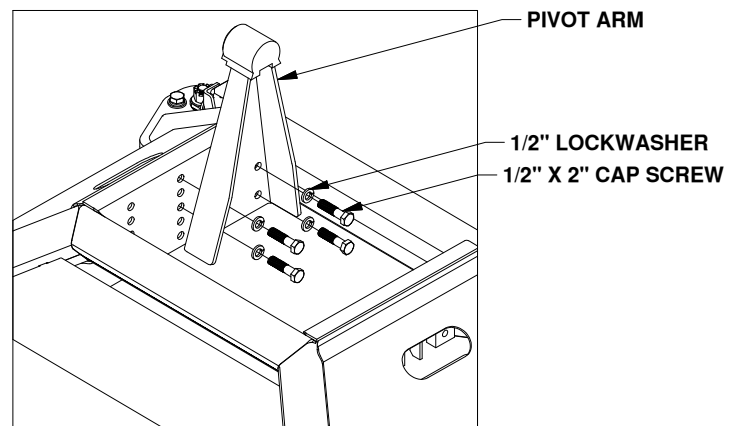
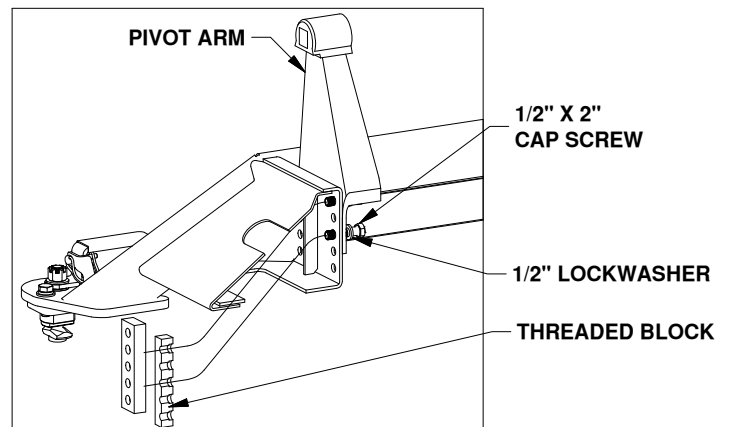

Figure A2: Passenger pivot arm mounting location.
Figure A3: Cutaway view of passenger side bolt plate.
- Locate both pivot arms, the four threaded blocks, eight 1/2" cap screws, and eight 1/2" split lock washers. Place the lock washers over the cap screws. Align the flat side of the pivot arm flat against the bolt plate and install four 1/2" cap screws through the holes on the arm, holding the arm in place, as shown in Figure A2. Locate the threaded blocks. Note that the sides of the block have threaded holes on one side and smooth bored holes on the other side. When installing the threaded blocks it is critical that the side with the smooth holes is flat against the bolt plate when installed. It is also critical that each of the five holes in the threaded block match up with the five vertical holes in the bolt plate. Pass the threaded block under the bases side and align the block with each set of screws and start each screw, as shown in Figure A3. After all the screws are started through the arms, torque each bolt to 110 ft-lbs.